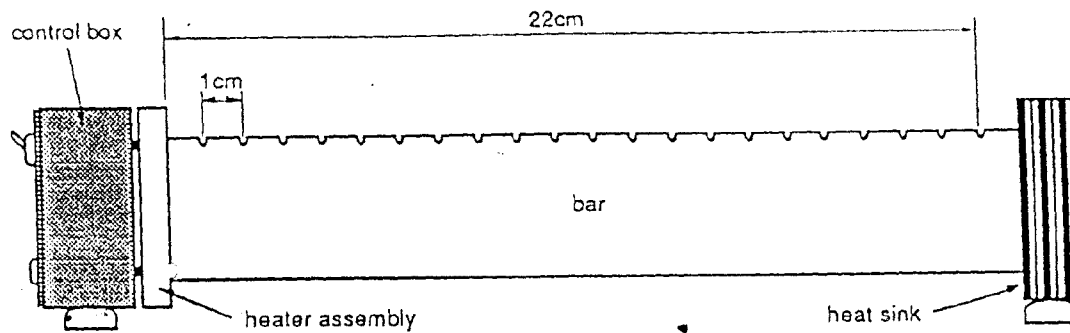
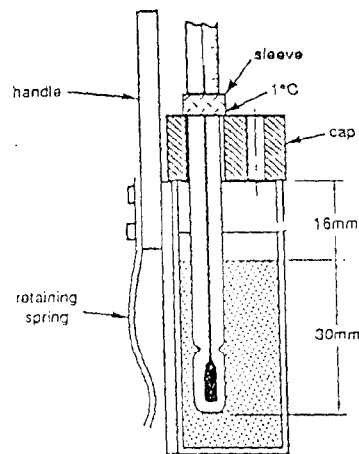

Figure 10-1 Heat bar
Figure 10-2 Calibration tank
In order to calibrate temperature sensors, temperature sources stabilised at various temperatures are required. This is achieved by a single heat bar shown in figure 10-1. The heat bar is heated at one end with electric heaters. The other end is connected to an extended surface exposed to surrounding. The heat bar consists of 20 notches. After reaching steady-state (it takes about an hour after the heater is turned on), each notch of the heat bar will have steady temperature. A calibration tank which is filled with water as shown in figure 10-2 is clamped to each notch. After the water temperature is steady, the temperature shown by thermometer is in effect, the temperature of that notch. If any other temperature is immersed in the tank, the changes in electric properties of the immersed sensor will correspond to the temperature shown by the thermometer. (The thermocouple used in the lab is of copper-constantan type and the thermistor has 2000 ohm at  $20^\circ\text{C}$ .) It is a good practice to start calibration from the least-temperature end of the heat bar.
- 1) The calibration tank has a white plastic cap with two holes in it. The larger hole is used for mercury-in-glass thermometer and the smaller is used for thermocouple. Remove the cap and fill the tank with water up to approximately 16mm from the top (see figure 10-2). If you look at the back of the thermometer, you will see that it is marked '30mm immersion'. This is the depth of immersion for which it was calibrated and should be adhered to for accurate measurements